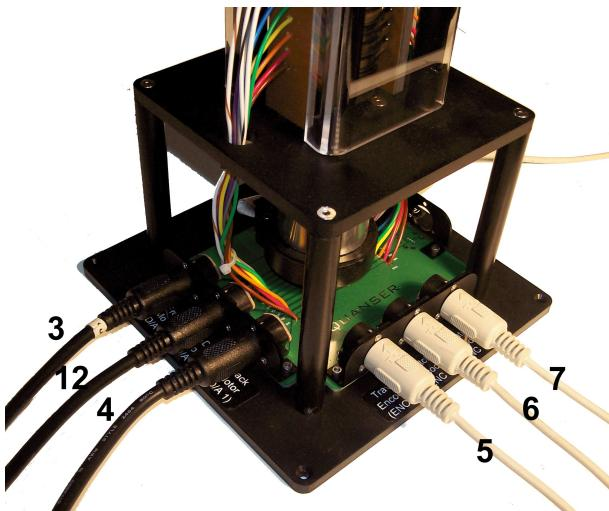

Figure 23: Connections on base of 3-DOF Helicopter
3. Connect the 4-pin-stereo-DIN to 6-pin-stereo-DIN that is labeled **Gain 3** from *To Load* on the UPM-1503 to the *ADS Motor* connector. See connection #12 shown in Figure 20 and Figure 23. This cable sets the gain of the amplifier to 3. The connector on the UPM-side is black and should be labeled 3. The cable transmits the amplified voltage that is applied to the **ADS** motor,  $V_{ads}$ .